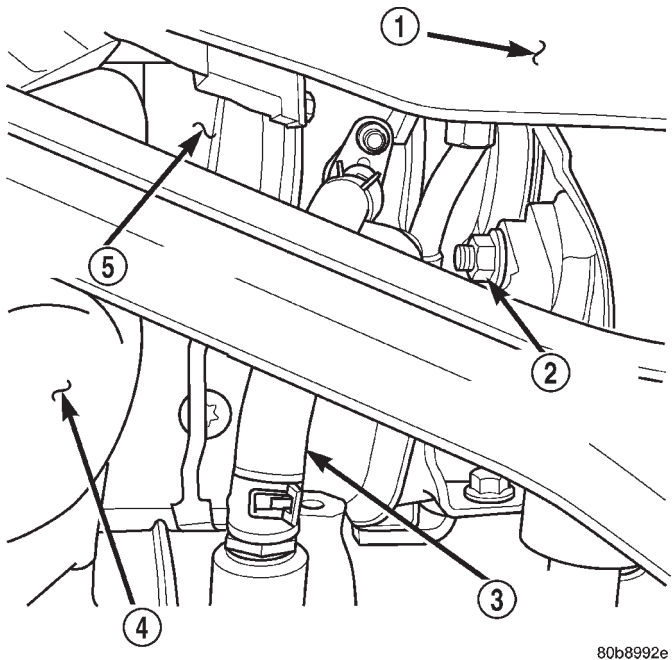

Fig. 2 Turbocharger Oil Return Hose — Position & Orientation
- (3) Remove the (2) right engine mount upper sill plate nuts.
- (4) Raise the vehicle on a hoist.
- (5) Remove the turbocharger oil return hose from engine block and plug (Fig. 2).
- (6) Remove the right engine mount through bolt nut only (Fig. 2). Do not remove the bolt at this time.
- (7) Position a jack stand and raise the weight off the right engine mount.
- (8) Remove the (2) right engine mount lower sill plate bolts.
- (9) Remove the (4) right engine mount bracket to engine block retaining bolts.
- (10) Remove the engine mount throughbolt.
- (11) Remove the engine mount and the engine mount bracket from the vehicle.